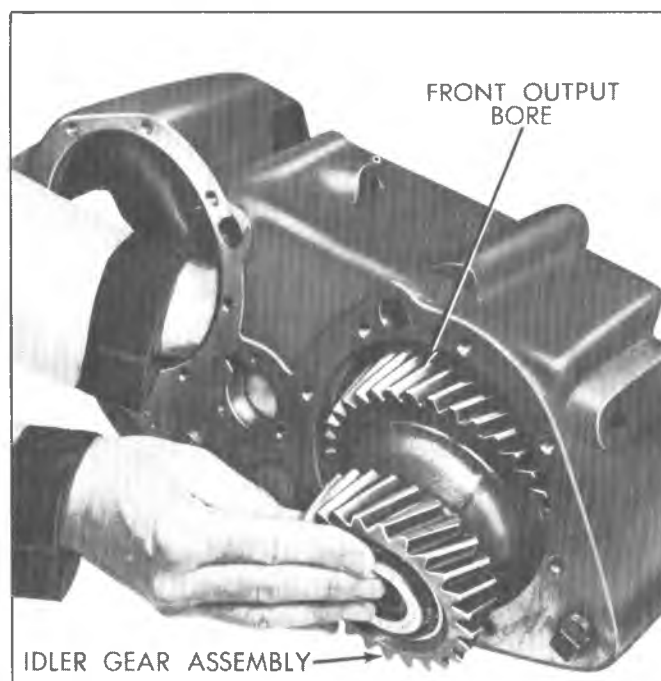

Fig. 12C-Installing Idler Gear
3. Install idler gear assembly with dummy shaft into case through front output bore, large end first (Fig. 12C).